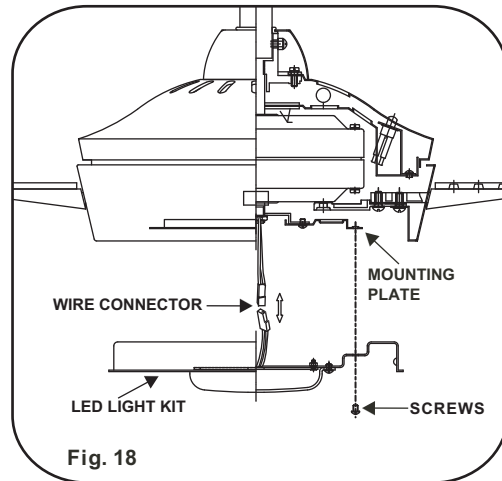

Fig. 18
Step 2. While holding the LED light kit under the fan motor assembly, make the 2-pin wire connections: (Fig. 18)
Step 3. Place the key holes on the LED light kit over the 2 screws previously loosened from the mounting plate, turn LED light kit until it locks in place at the narrow section of the key holes. Secure by tightening the 2 screws previously loosened and the one previously removed. (Fig. 18)